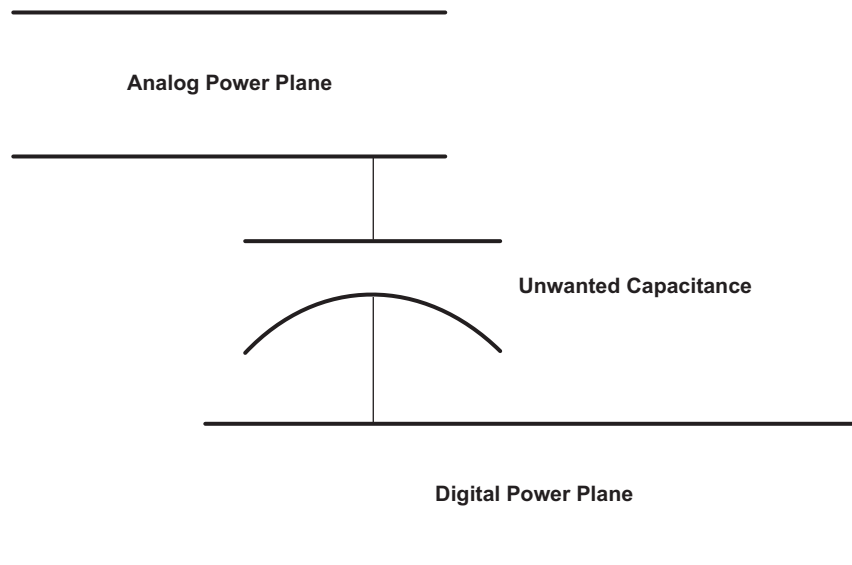

图 7-37. Do Not Overlap Planes
- Do not overlap planes that do not reference each other. For example, do not overlap a digital power plane with an analog power plane as this produces a capacitance between the overlapping areas that could pass RF emissions from one plane to the other, as shown in 图 7-37.